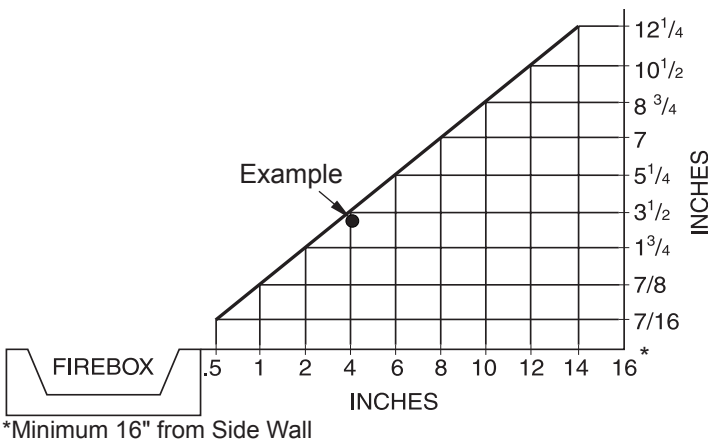

Figure 2 - Minimum Clearance for Combustible to Wall
- where curtains, furniture, clothing or other flammable objects are less than 36" from front, 42" from top of appliance; for side clearances see Figure 2, page 5
A. Clearances from the side of the fireplace cabinet to any combustible material and wall should follow diagram in Figure 2.
*Example:* The face of a mantel, bookshelf, etc. is made of combustible material and protrudes 3 1/2" from the wall. This combustible material must be 4" from the side of the fireplace cabinet (see Figure 2).